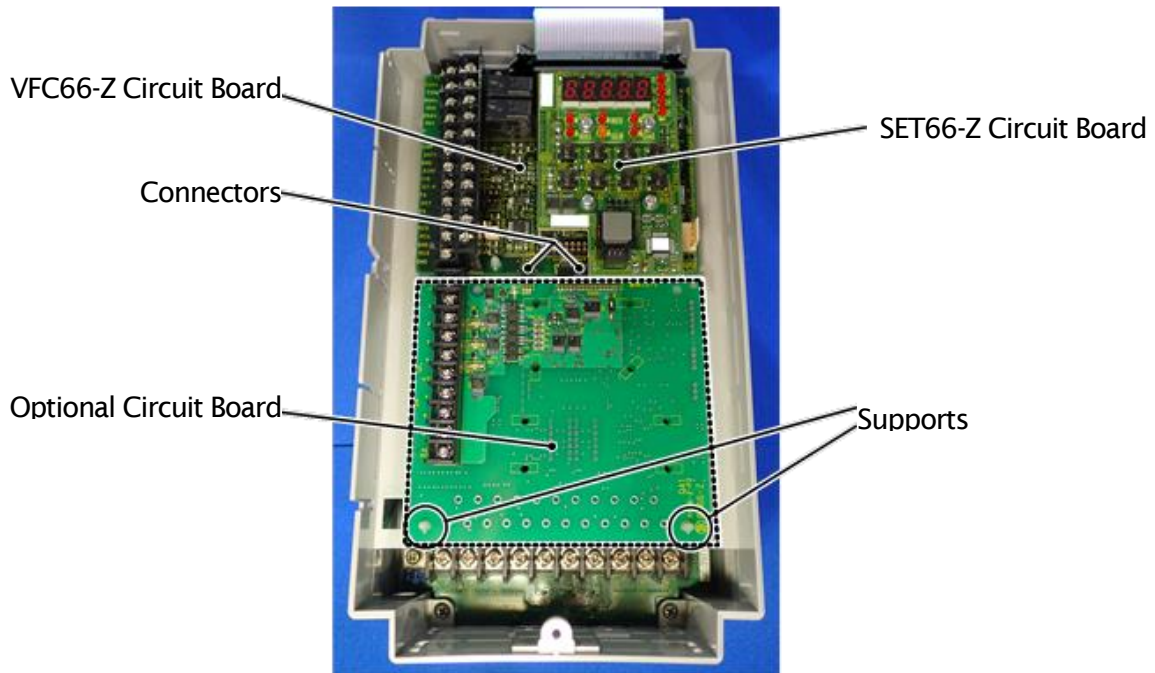
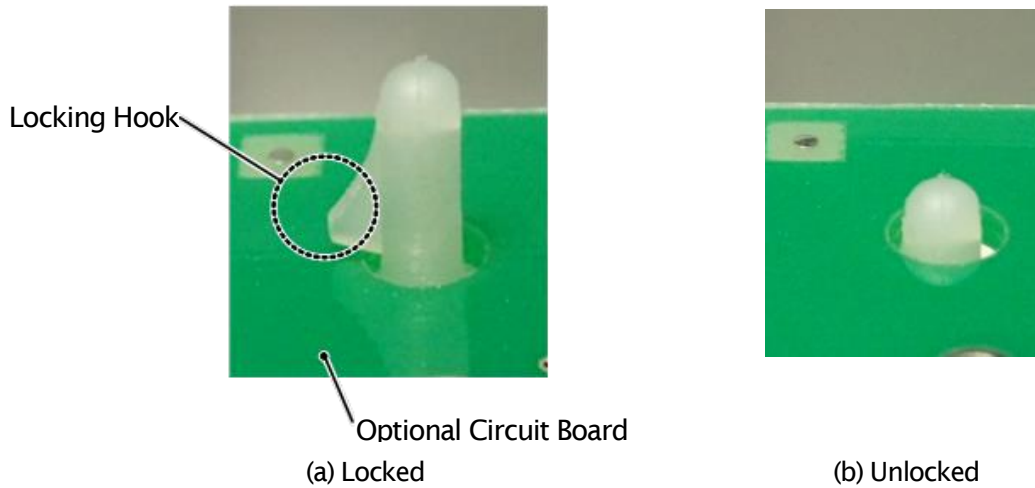

Figure 3.6 OPCN66-Z Installation Position (VF66B-2R222)
Figure 3.8 Support Locking Hook
- (1) Confirm that the power is off before performing any work.
- (2) Install the OPCN66-Z board in the location designated by the dotted lines shown in Figure 3.6. (The figure shows the VF66B-2R222 model, however, the installation location is the same for other models.) If another optional circuit board is already installed, remove it by following the procedure described below. If another optional circuit board is not already installed, skip to (6).
- (3) In order to safely remove the optional circuit board, first remove the SET66-Z board. Remove the 4 screws indicated by the circles in the figure on the right. Pull the SET66-Z board away from the VFC66-Z board in order to detach it.
- (4) 2 board supports are included to mount the optional circuit board to the inverter housing, as indicated by the circles in Figure 3.6. Press down on the board support locking hooks as shown in Figure 3.8 (a) to remove the board. Do not lift the bottom edge of the board too much, the connectors could be damaged.
- (7) Align the four holes of the OPCN66-Z board with the 2 board supports indicated by the circles in Figure 3.6.
Push down on the board until the support locking hooks snap into place as shown in Figure 3.8 (a).